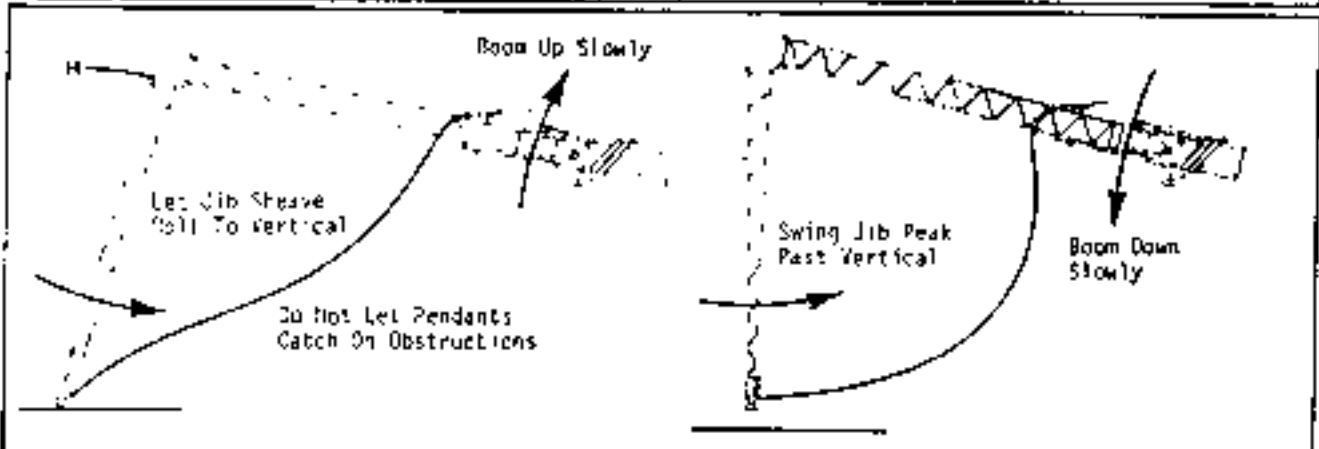

Fig. 4-31
Step 8: Refer to Fig. 4-31 & 32. Boom up letting the jib sheave roll on ground until the jib top section is hanging vertical.